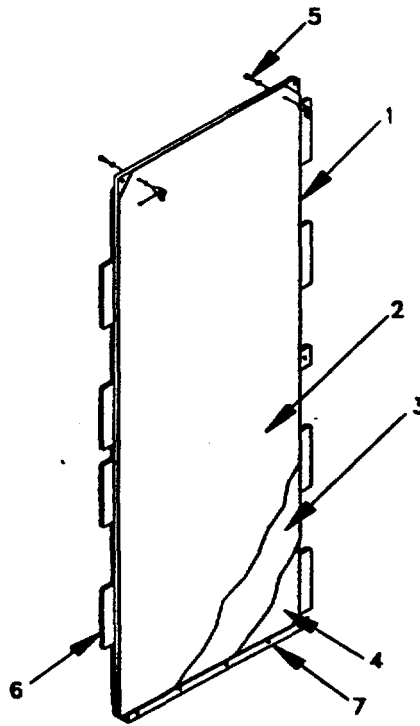

Figure 1-4.
d. Mapboard Assembly. Four mapboard assemblies are provided with the MCPS. The major components of the mapboard assembly are illustrated in Figure 1-4.